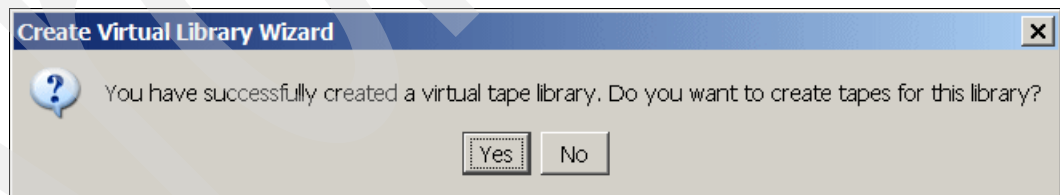

Figure 8-15 TS7500 - Specify to create tapes
9. After you create the virtual library, you are asked to create tapes for the virtual tape library just created, as shown in Figure 8-15. Then you can create virtual volumes.